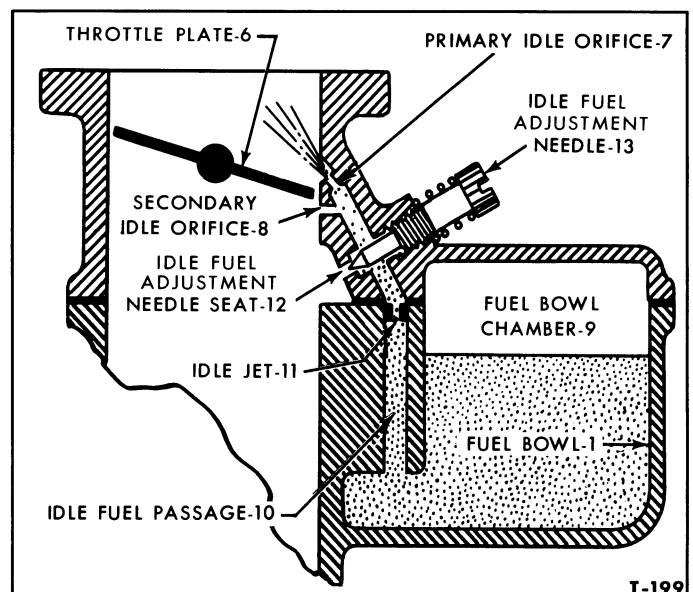
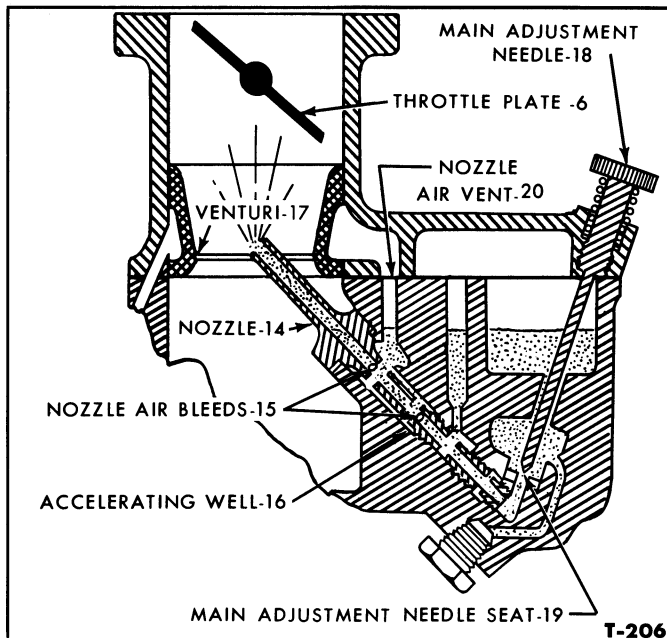

Figure 3—Idle Fuel System
Figure 4—Power Fuel System
2. The idle fuel system, shown in Figure 3, controls the flow of fuel at idle speed and at slow speeds until the throttle is opened wide enough to allow the power system to operate.
When the throttle plate (6), is in the idle position, it is slightly open, with the edge of the plate between the primary and secondary idle orifices (7) and (8). With the plate in this position, the air pressure at the primary orifice is lower than the air pressure in the fuel bowl chamber, due to manifold vacuum at the primary orifice. Therefore, fuel is forced from the fuel bowl into the idle passage (10), Figure 3. As the fuel travels through the idle fuel passage, it passes through the idle jet (11), to the point where it is combined with air entering through the idle fuel adjustment needle seat (12). The fuel is mixed with air again when it passes the secondary idle orifice as it travels through the idle fuel passage. The mixture that emerges from the primary idle orifice is rich, however, it is reduced to the correct proportion by the air passing the throttle plate.
3. The power fuel system, shown in Figure 4, supplies fuel to the engine in the speed ranges beyond idle and slow speed.
As engine speed is increased, the air flow through the venturi (17), Figure 4, is increased. The increased air flow creates a vacuum at the nozzle tip (14). The pressure then is lower at the nozzle than it is in the fuel bowl chamber (9), Figure 3, and the accelerating well (16), Figure 4. Fuel, therefore, flows from the fuel bowl, through the main adjustment needle and seat assembly (19) and out the nozzle (14) and into the air stream at the venturi. At the same time, the
fuel in the accelerating well is forced through the nozzle air bleeds (15) in the nozzle. However, due to the size of the power jet and the restriction at the main adjustment needle seat, the fuel in the accelerating well is soon exhausted, and air enters the accelerating well through the nozzle air vent (20), Figure 4. The amount of air that can enter is limited by the size of the nozzle air vent. This air helps to atomize the fuel passing through the nozzle, and it helps to regulate the rate of discharge of the fuel fed from the accelerating well during acceleration. It also provides the correct mixture proportions for full throttle operation. When the throttle plate is opened suddenly to the wide open position, the fuel in the accelerating well is forced out through the nozzle air bleeds very rapidly, providing the extra rich mixture the engine needs to meet the sudden load. When the throttle is closed again, fuel fills the accelerating well, ready for the next acceleration.